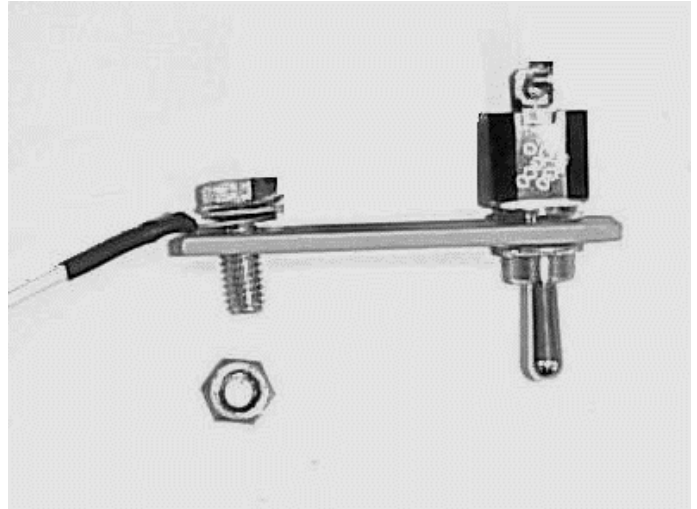

Figure 3
Step 2; See Figure 3 & 1:
Step 2; See Figure 3: